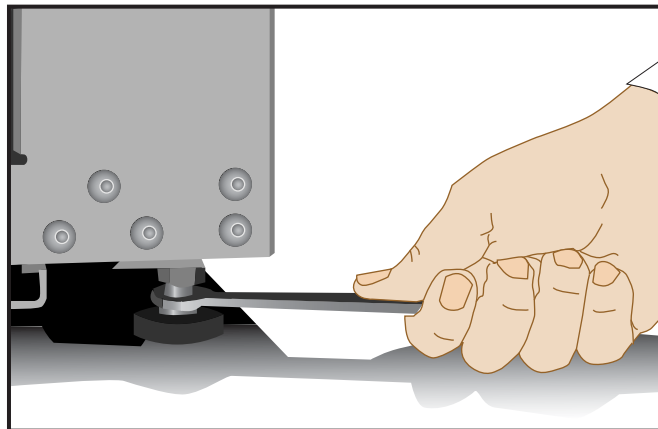

Figure 1-11 Leveling Bolts
2. Adjust the leveling bolts of a rack, as shown in Figure 1-11, until the rack is level.